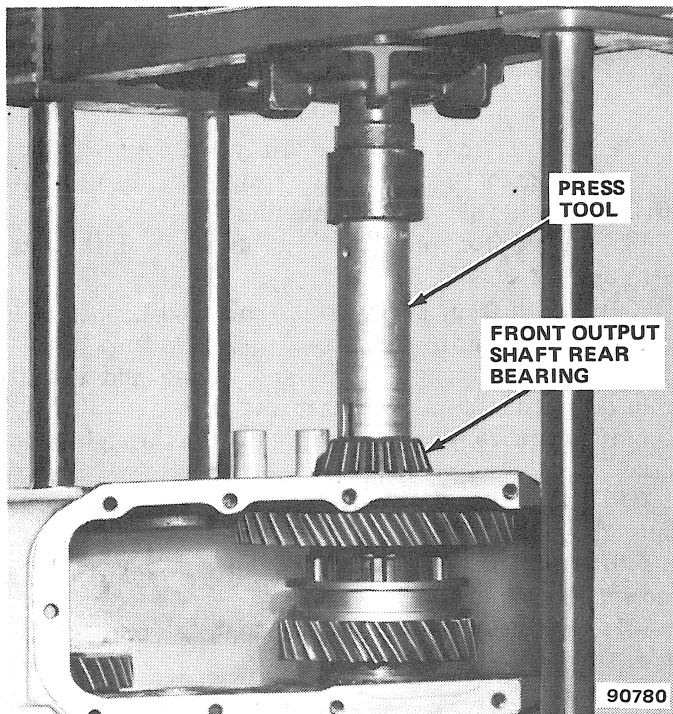

Fig. 2D-82 Front Output Shaft Rear Bearing Installation
(1) Install shift rod thimbles. Apply Loctite 220 or equivalent sealant to thimbles before installation.
(2) Install front output shaft gear on front output shaft. Be sure clutch teeth on gear face shaft gear teeth.
(3) Install front bearing on front output shaft using arbor press and suitable press tool. Be sure bearing is seated against gear.
(4) Install front output shaft in case and install clutch sleeve and clutch gear on shaft.
(5) Install front output shaft rear bearing using arbor press and suitable press tool (fig. 2D-82).